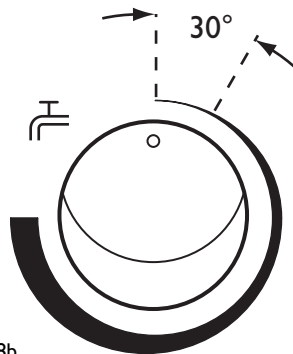

Fig. 68b
8. Once the Temperature Control is turned approximately 30° clockwise (Fig. 68b) the pre-heat feature is activated.